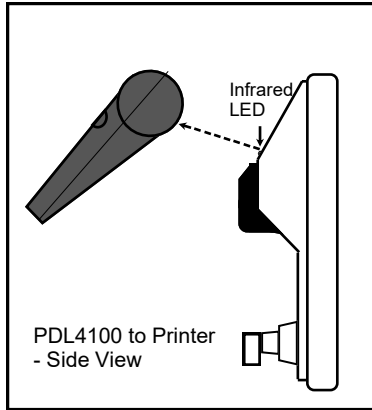
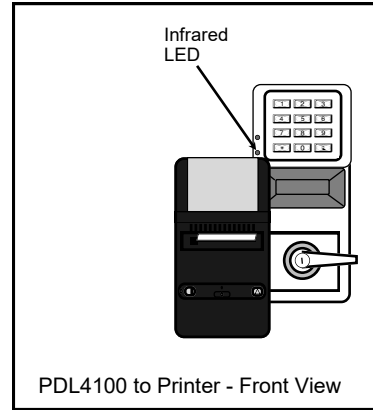

Figure 1
Figure 2
Hold the printer perpendicular to the Lock's infrared LED as shown in Figure 1 and Figure 2. If the printer has been idle for some time, press the paper feed button to wake up the printer.
Hold the printer over the lock's infrared sensor as shown in Figure 1 and Figure 2 above. Twenty (20) events will print at a time; press 1 for more events, or 9 to quit. To abort printing, press any key for 3 seconds (three short beeps will sound).
Hold the printer over the lock's infrared sensor as shown in Figure 1 and Figure 2 above. To abort printing, press any key for 3 seconds (three short beeps will sound).
Hold the printer over the lock's infrared sensor as shown in Figure 1 and Figure 2 above.